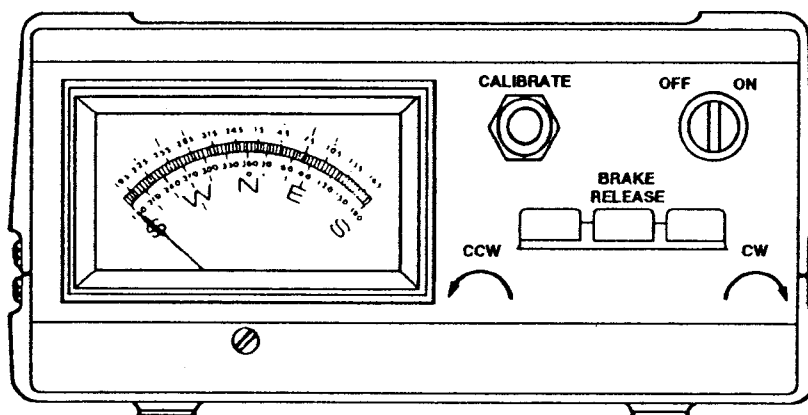

Figure 1
- B. Assemble the rotor cable as shown in Figure 1.